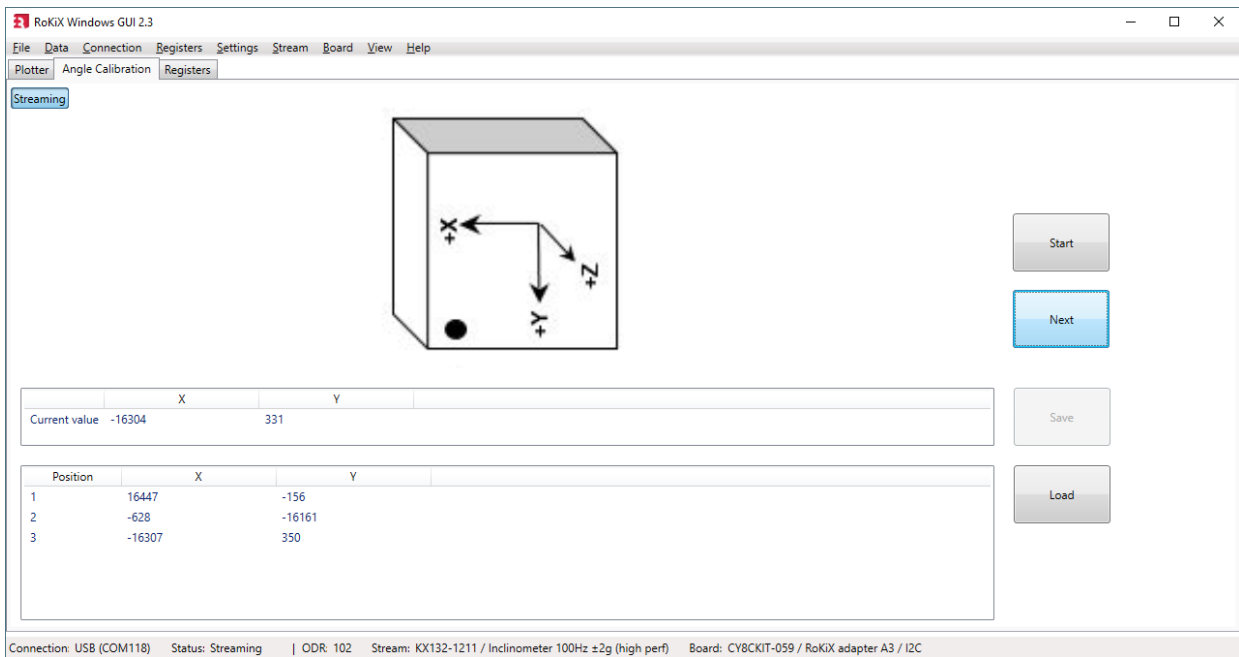

Figure 47. Angle Calibration. Position - 4
- Click Next and hold the device still until the diagram changes to the 4th position (Figure 47)